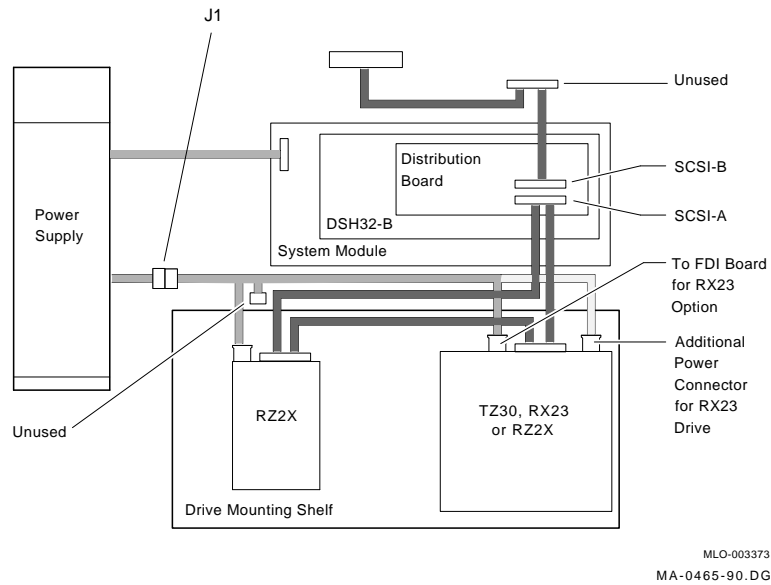

Figure 1-3 DC Power Harness Plug
2. Disconnect the dc power harness plug from J1 on the H7821 power supply (Figure 1-3).